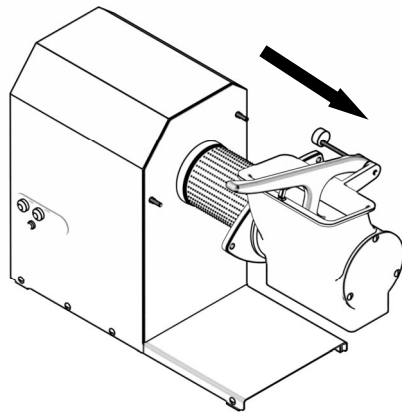

Fig. 7.2.2
- Pull out the spout (fig 7.2.2) with caution, as the spout assembly weighs 6 kg